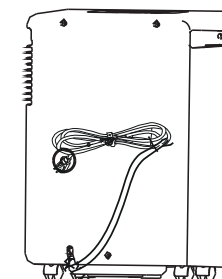

Fig. 8
- Wrap the cord and bundle it with the band (Fig. 8)